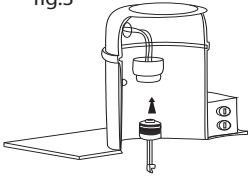

fig.4
Step 4. Plug the female connector of the retrofit kit into the male connector of the socket adaptor (fig.4).